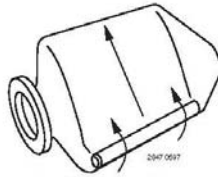

Figure 4 – Roll diagonally toward neck
- B. To get tightest possible wrap, start on one side at top and TIGHTLY roll bladder diagonally to other side (see Figure 4). To force out as much air as possible, be sure to roll toward bladder neck opening.